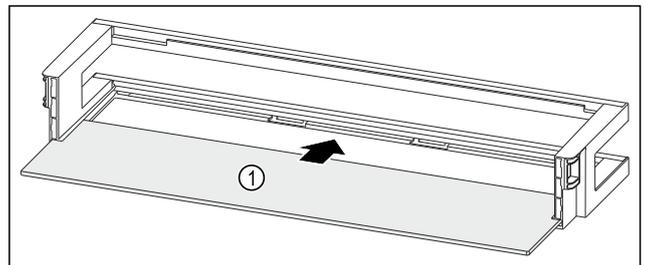

Fig. 97 Door rack with shelf
- ▶ Push the shelf Fig. 97 (1) into the side recesses.